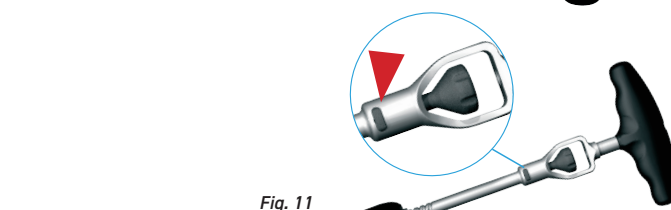
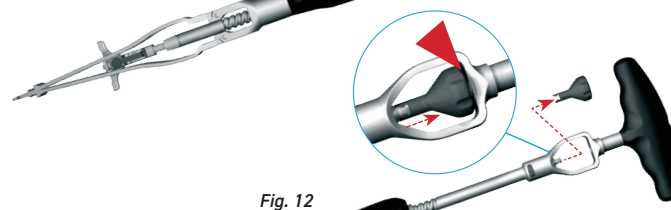

Fig. 11
Fig. 12
1. Press the quick-release button (E located below the implant locking knob (Fig. 11) and pull the knob towards the T-handle to release and remove the locking knob from the inner shaft (Fig. 12).